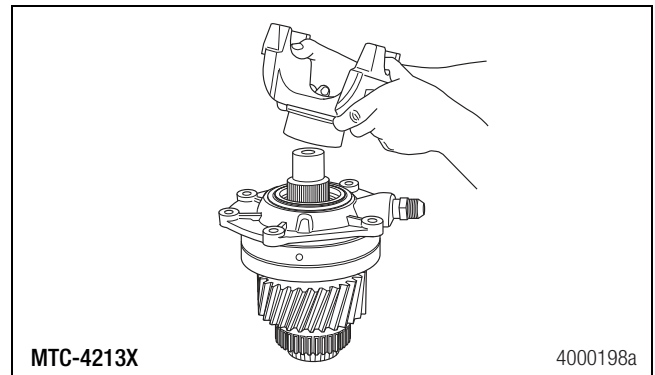

Figure 5.28
3. Use a yoke puller to remove the front input yoke. Figure 5.28.